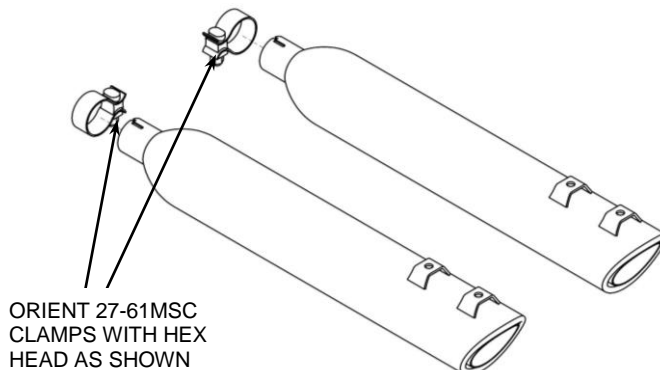

FIGURE 1
2. Position the stock clamps with the hex head facing the ground as shown in **Figure 1** and slide them onto the slip-on mufflers.